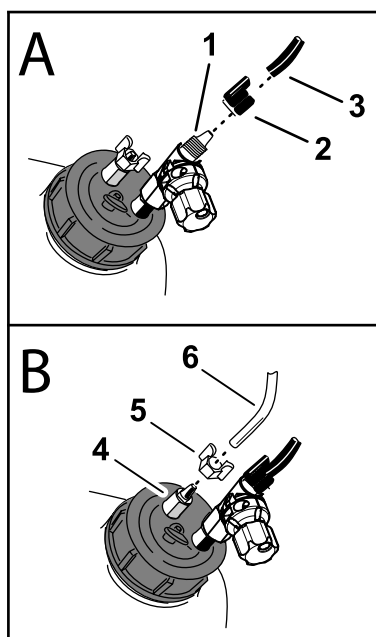

Figure 2
1. Assemble blue compression nut (Figure 2) that you removed in step 3 of Installing the Foam Control Valve \(page 3\) onto the blue tube of the compressor to tank loop-back tubing that you cut in 2 Preparing the Tubing \(page 2\).
2. Assemble the blue tube and blue nut into the fitting of the cap-mounted regulating valve, and tighten the compression nut by hand (Figure 2).
4. Remove the white compression nut from the fitting on the tank cap (Figure 2).
5. Assemble white compression nut onto the clear tube of the compressor to tank loop-back tubing (Figure 2).